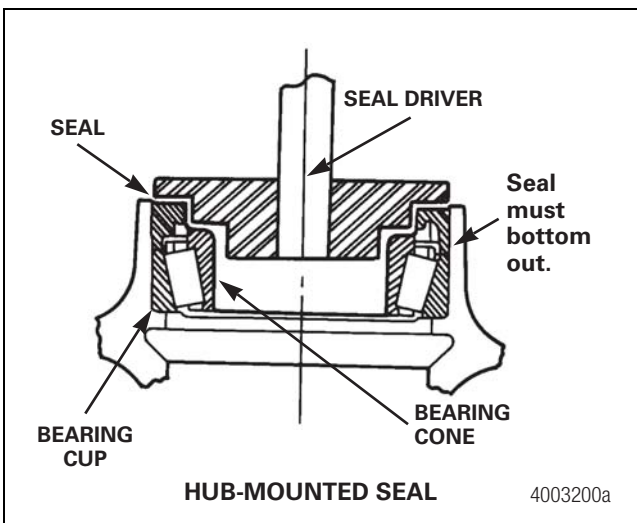

Figure 5.8
- A. **For hub-mounted seals:** Install the inner bearing cone inside the hub. Lubricate the seal according to the seal manufacturer's recommendations, then place it onto the installation tool. Align the tool with the hub seal bore and drive the seal until it bottoms out in the hub seal bore. Rotate the tool and apply several light blows to ensure the seal is correctly seated. Check the bearing to verify it rotates freely. Figure 5.8.